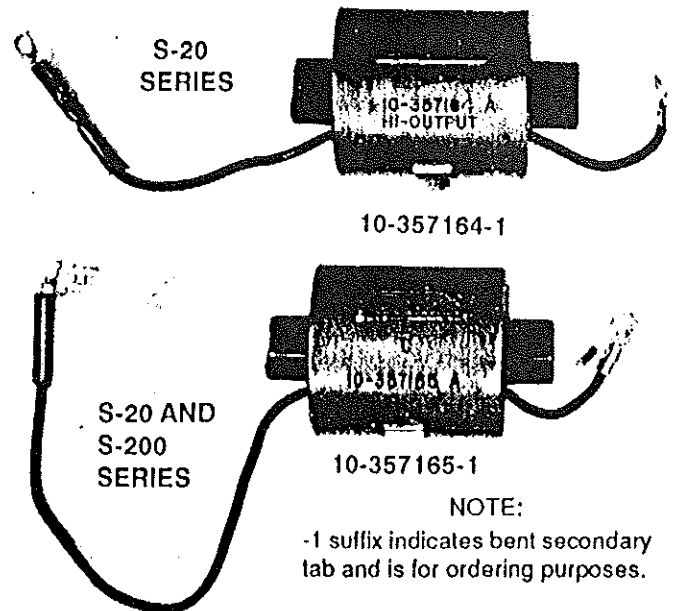
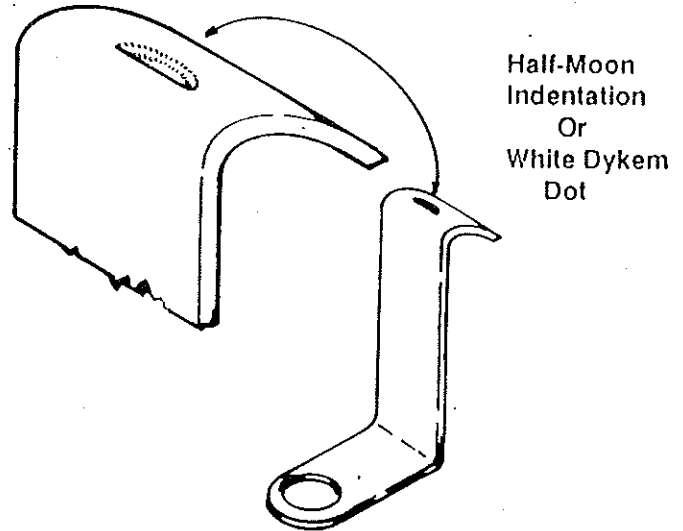

Figure 710. Current Design Coils (58)
Figure 711. Current Design Clamp (57)
- A. Ensure coil is of current design. Coil must exhibit red epoxy compound, external ground lead and part number 10-357164 or 10-357165 as shown in Figure 710. Coil may be cylinder or barrel shaped. Discard all old coils.
- B. Visually inspect coil (58)
(1) Inspect core laminations of coil (58) for wear at point of contact with pole shoe laminations in magneto housing. If wear is present coil will not fit tightly to laminations and must be replaced, regardless of electrical characteristics.
(2) Inspect leads for damaged insulation or loose connections. Discard coil with these conditions.
(3) Inspect high tension tab for wear caused by carbon brush (73), indicated by a visible depression in the tab. If tab is worn repair coil as specified in repair paragraph 8.2.1.
- D. Look at coil core clamps (57) closely. Obsolete design clamps not having identification mark shown in Figure 711 must be replaced with clamps having either a half moon indentation or a white dykem dot. Clamps with a circular indentation or no indentation must be discarded. Acceptable clamps may or may not have black oxide finish.